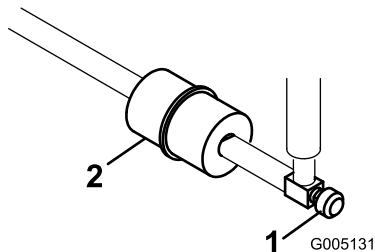

Figure 30
An in-line filter is incorporated into the fuel line between the fuel tank and carburetor (Figure 30).
1. Close the fuel-shutoff valve, loosen the hose clamp on the carburetor side of filter, and remove the fuel line from the filter (Figure 30).
2. Place a drain pan under the filter, loosen the remaining hose clamp and remove the filter (Figure 30).